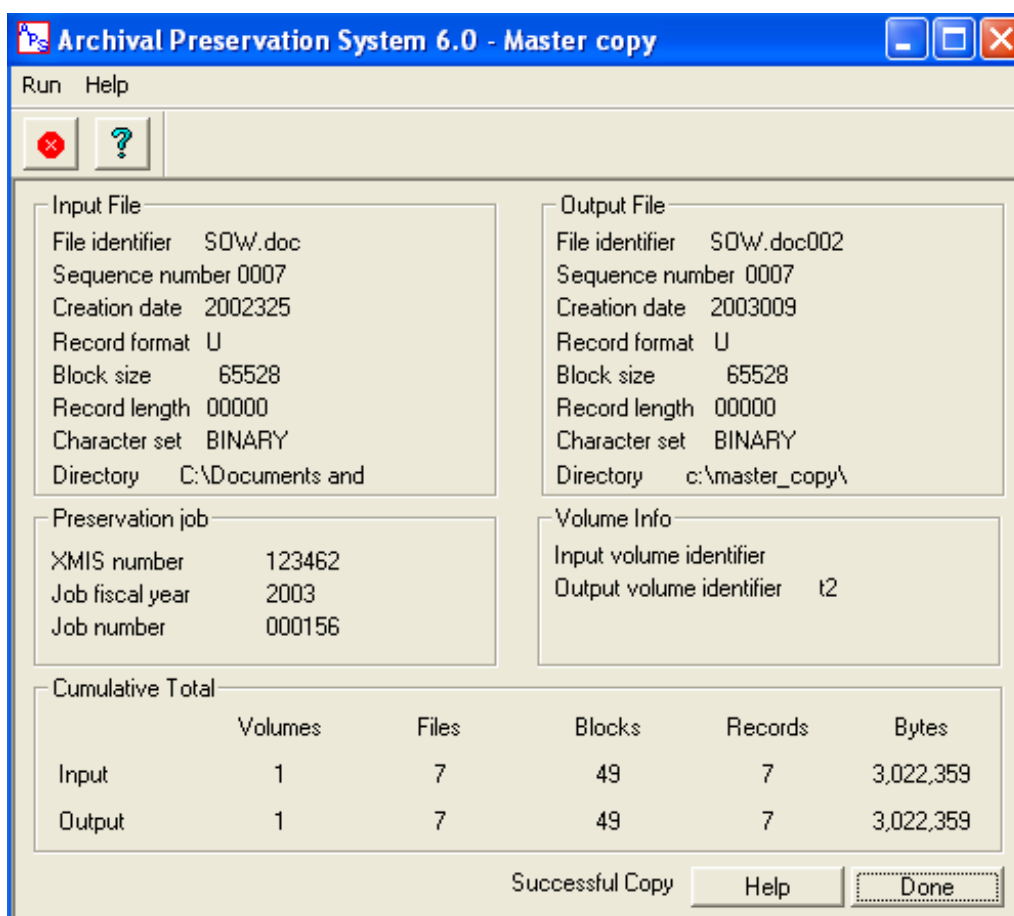

Figure 37: Copy Status Screen
7. When the Copy job is done, the Copy Status Screen will be displayed. This is shown in Figure 37: Copy Status Screen.